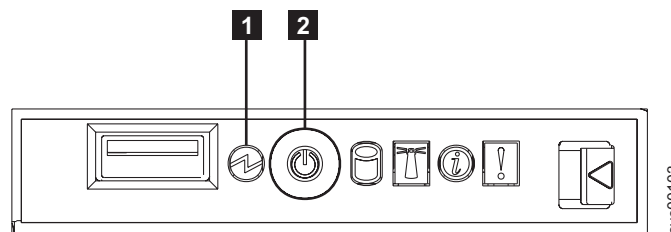
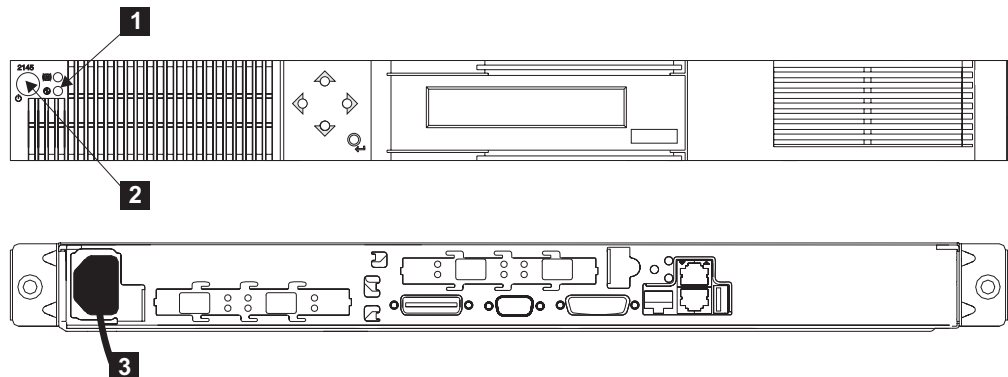

Figure 82. SAN Volume Controller 2145-8F4 or SAN Volume Controller 2145-8F2 operator information panel
Figure 83. Front and back panel views of the SAN Volume Controller 2145-4F2
1. Check the SAN Volume Controller 2145-8F4 or SAN Volume Controller 2145-8F2 power LED **1** (Figure 82) or the SAN Volume Controller 2145-4F2 power light **1** (Figure 83). If the light is on, go to step 2 on page 302. If the light is either off or flashing, power has already been removed from the SAN Volume Controller. Go to step 4 on page 302.